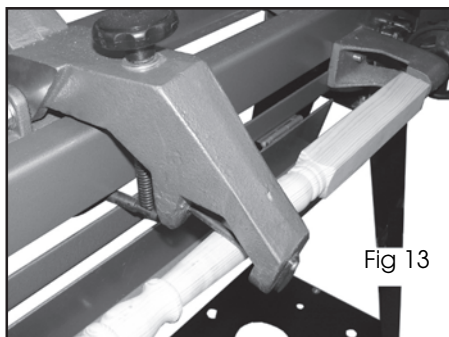

Fig 13
4. Check that the copy follower is resting on the template object and will follow the outline profile as the assembly is moved along as shown in Fig 13.